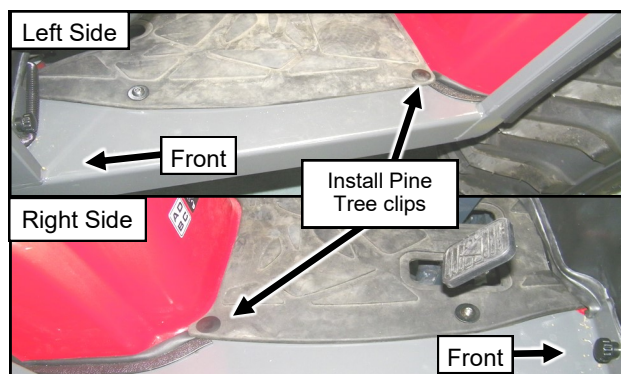

Fig. 17.2 (Floor Mat Pine Tree Clips)
**17.2** Install new Pine Tree Clips through the rear of each side of the floor mat, through the cab and tractor floorboards. See Fig. 17.2.